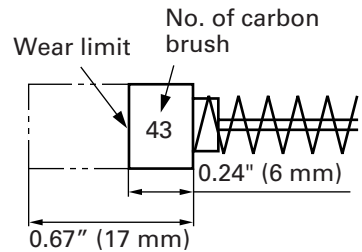

Fig. 24
## 4. Inspecting the carbon brushes (Fig. 24)
**NOTE:** Use HITACHI carbon brush No. 43 indicated in Fig. 24.